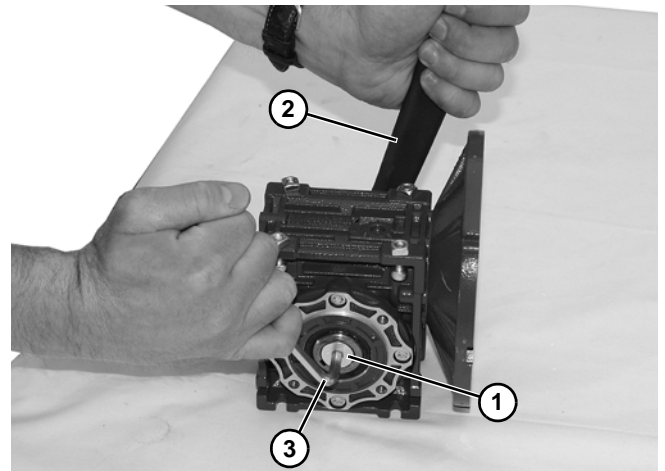

Figure 23
2. Loosen driveshaft bolt (**Figure 23, item 1**).
3. Hold the driveshaft with a wrench (**Figure 23, item 2**) as shown to keep shaft from turning, while removing screw with hex wrench (**Figure 23, item 3**).
8. Hold the driveshaft with a wrench (Figure 23, item 2) as shown to keep shaft from turning, while installing screw with hex wrench (Figure 23, item 3). Tighten screw to 100 in-lb (11.5 Nm) for 42CZ or 350 in-lb (39.5 Nm) for 52C, 63B5 and 71B5.